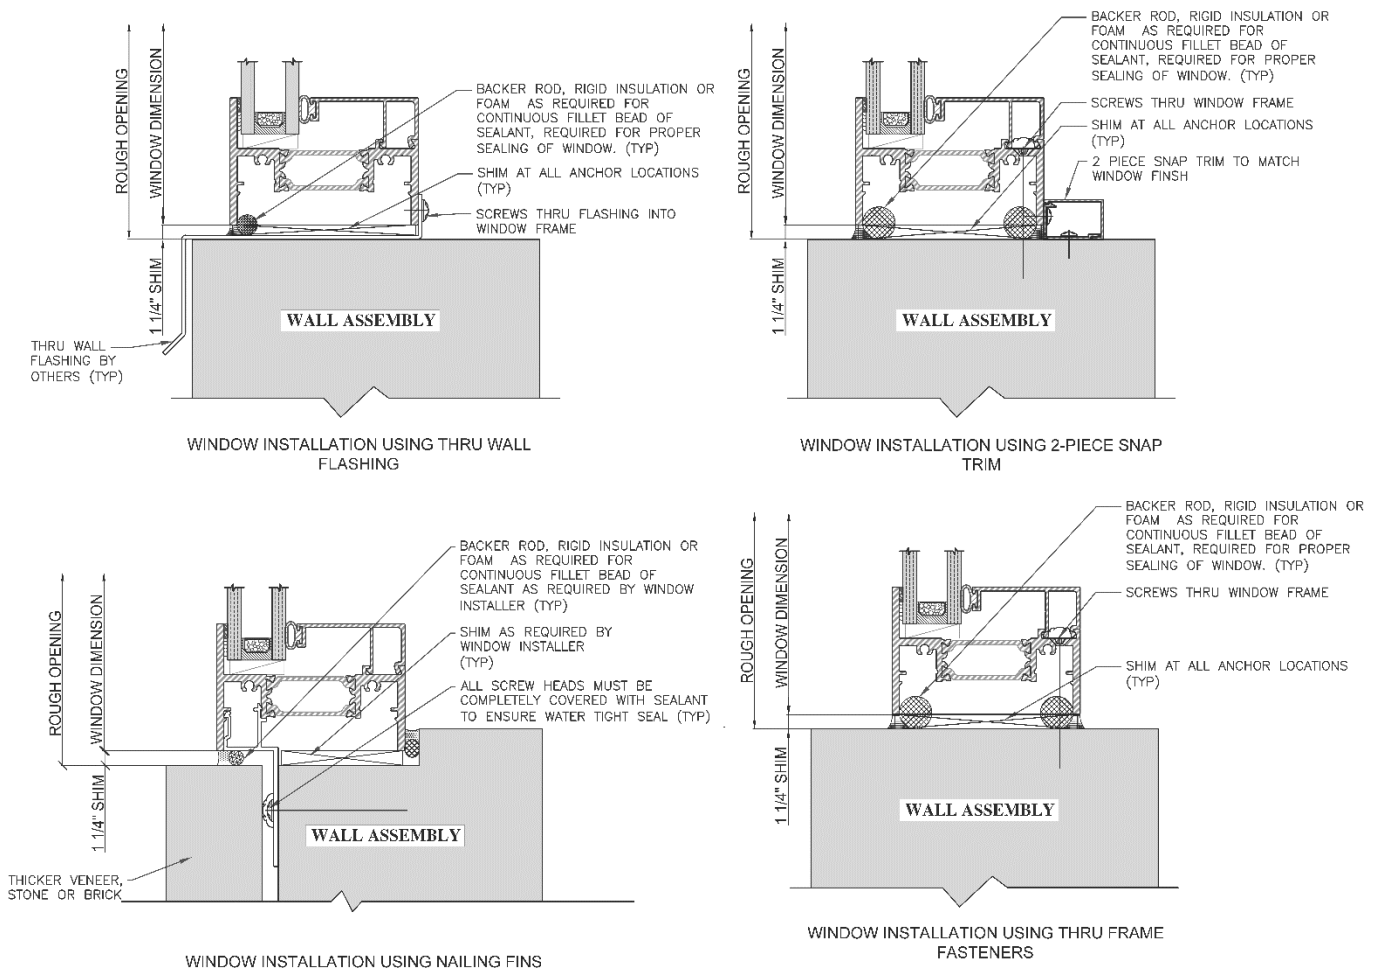
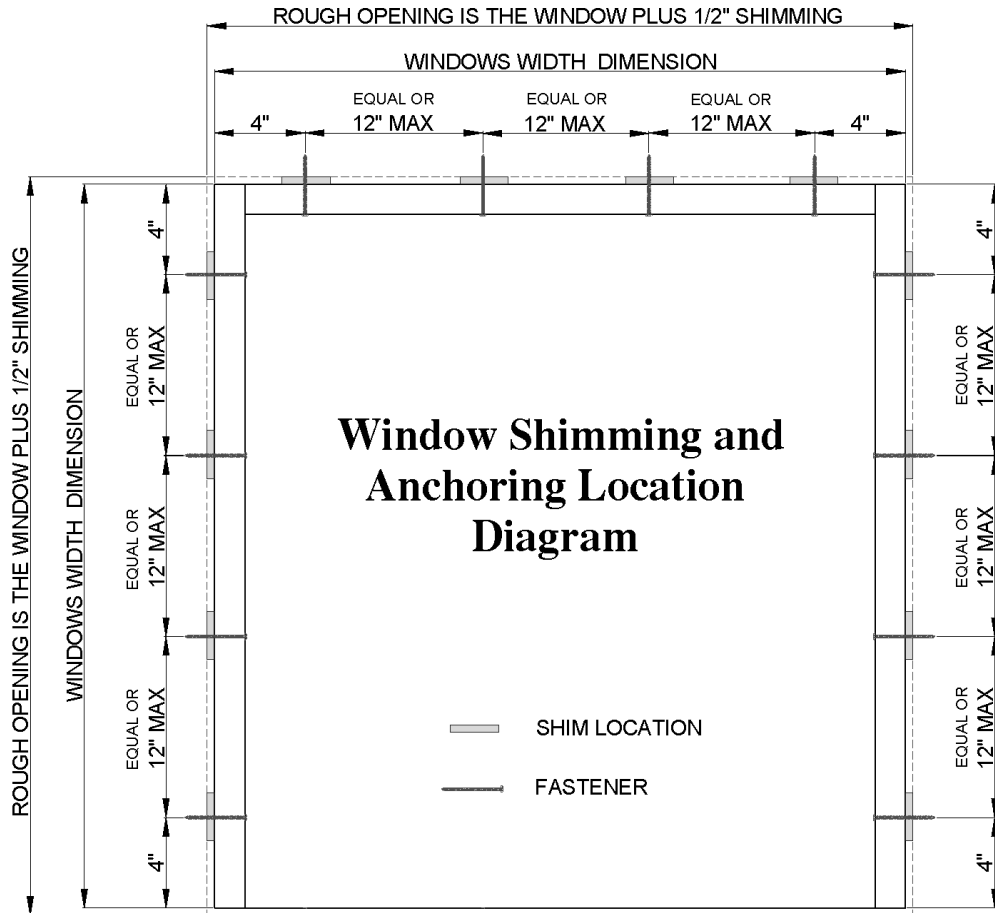

FIGURE 1.0
Figure 1.3
- Installation instructions are intended to be a reasonable guideline for the installation of window units and trims, based on common conditions. Conditions on a project vary, and deviations and/or special instructions should be defined in the shop drawings. See figure 1.0 for installation options.
There are various ways to anchor windows (snap trim, which is shipped loose, etc.) Always follow local codes for anchoring windows; if not covered by local or county jurisdictions, typical anchoring for all type installations would be 4" from top and bottom of the side's rails, 4" from the sides on the top rail, and 12" apart along the balance of window, not the sill. (Figure 1.3)
Line the window up in the prepared opening, shimming as necessary. (Figure 1.3) Fasten trim clip to substrate and window and seal the heads. See figure 1.0 for typical sill details.